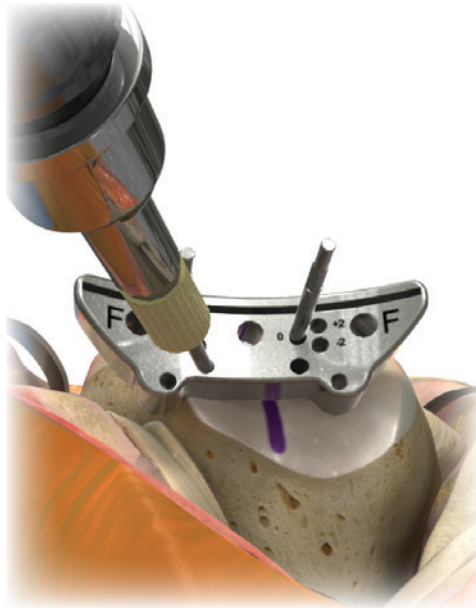

Figure 7
10. Once resection level and alignment are determined, insert a third pin into the angled pin hole to secure the universal cutting block in position. Resect the distal femur using an oscillating saw (Figure 7).